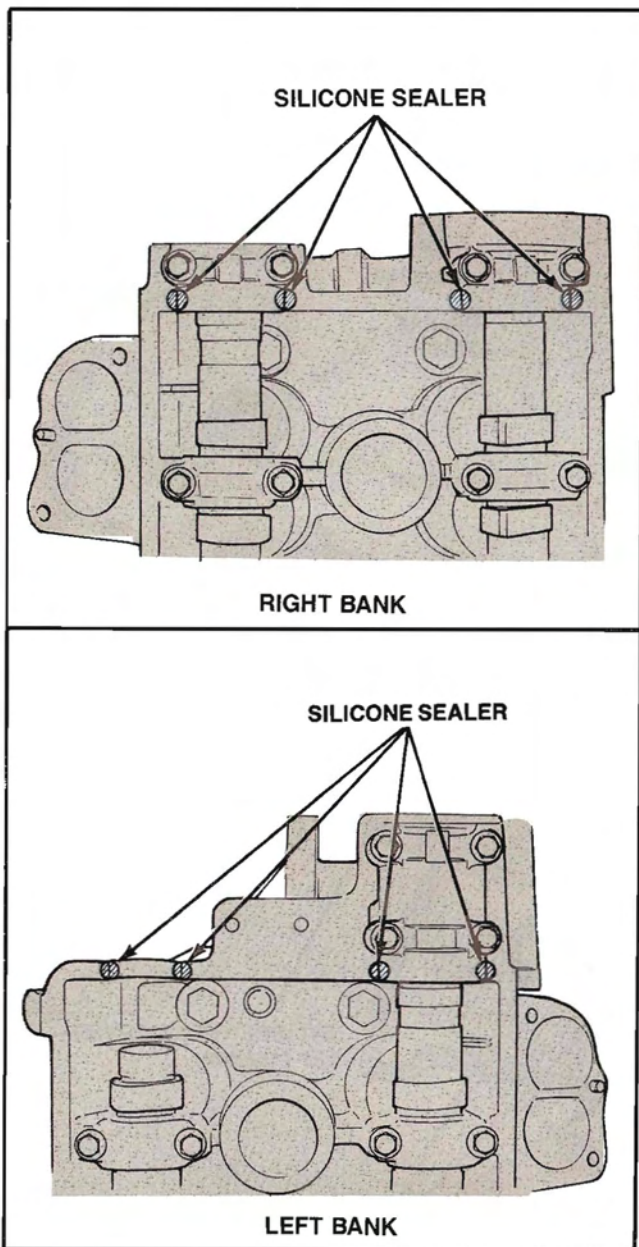

Figure 145. Silicone Sealer Application Points
2. Apply Silicone Sealer E3AZ-19562-A at four points on both the right and left side cylinder heads (Fig. 145).